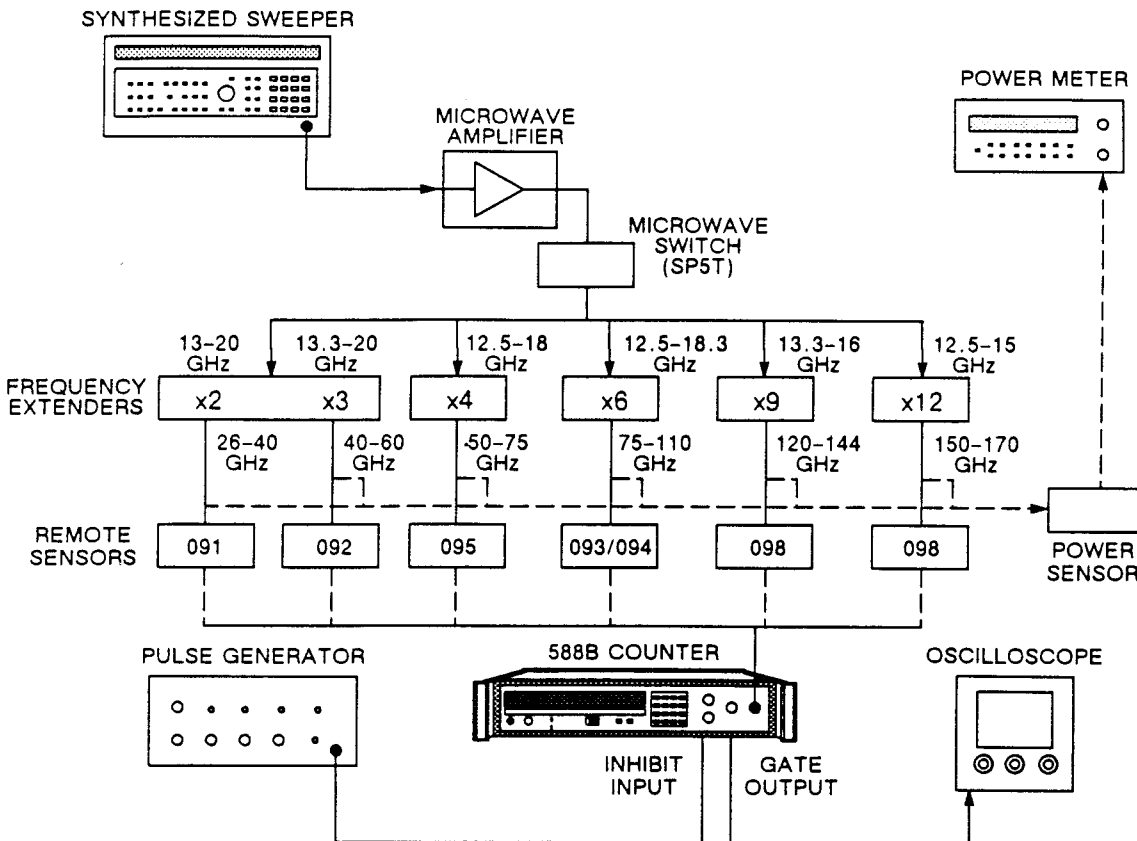

Figure 11-8. Averaging Error Test Setup.
1. Connect equipment as shown in Figure 11-8 and turn equipment on.
8. Take 10 measurements by pressing TRIG key 10 times.